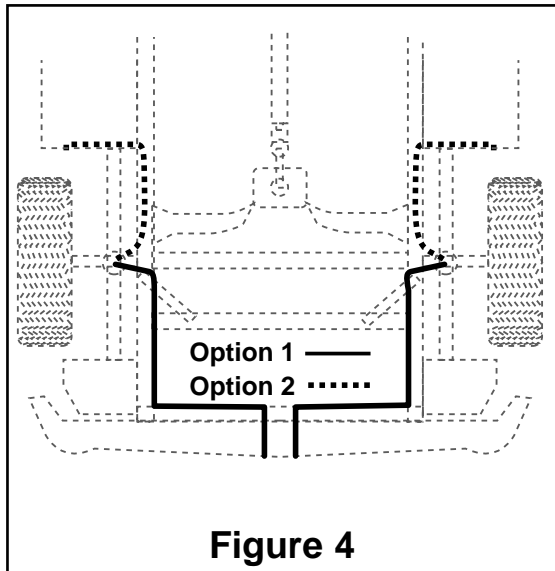

Figure 4
10. Select a location for the inflation valves in the rear bumper area or rocker panel flange insuring that each valve will be protected and accessible with an air hose (Figure 4).
8. Route air line along frame to desired inflation valve location (Figure 4). Attach air line to chassis with the provided plastic straps.